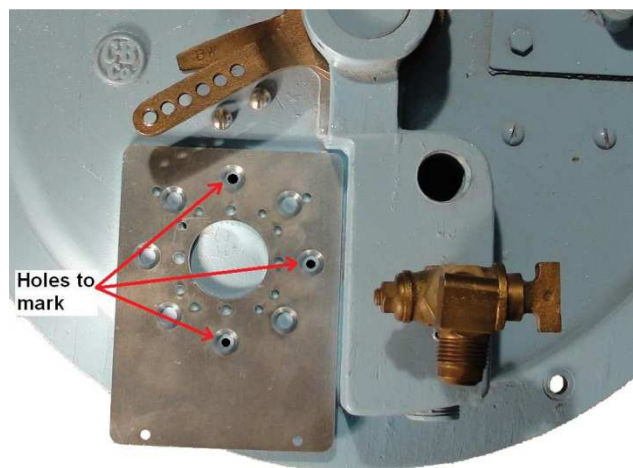

Figure 3: Using the Actuator Base Plate as a Template
2. Mark the positions to be drilled using the actuator base plate as a template. The holes to be drilled are at the 12, 3, and 6 o'clock positions on the actuator base plate. The actuator base plate should be flush against the casting as shown in Figure 3.